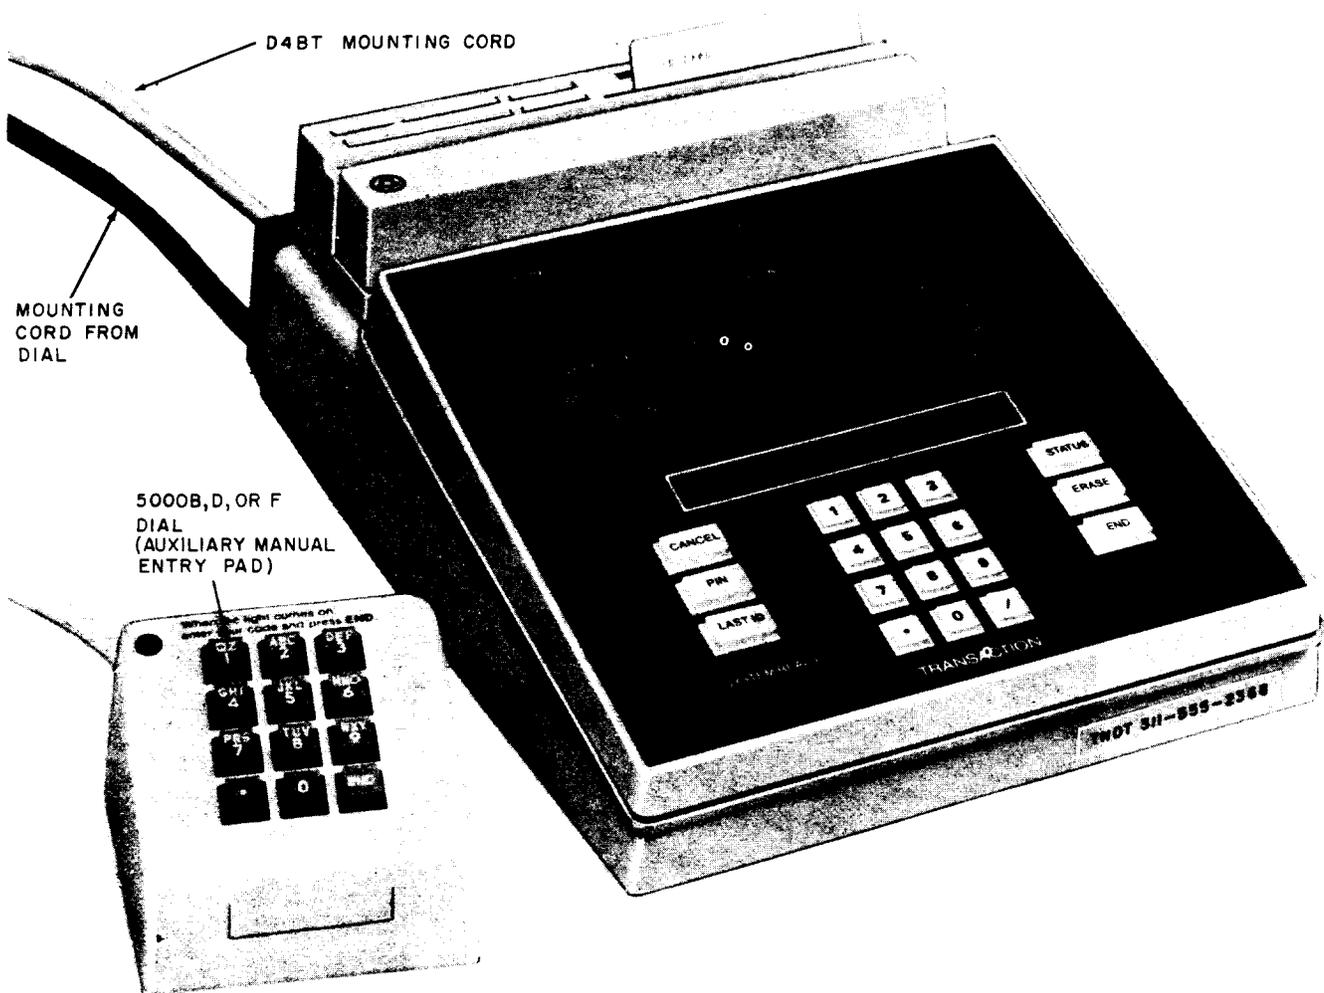

Fig. 8—5000A Transaction III Terminal Set With 5000B, D, or F Dial Installed
B. Personal Identification Number (PIN) (Provided by the Addition of an Auxiliary Entry Pad (Fig. 8))